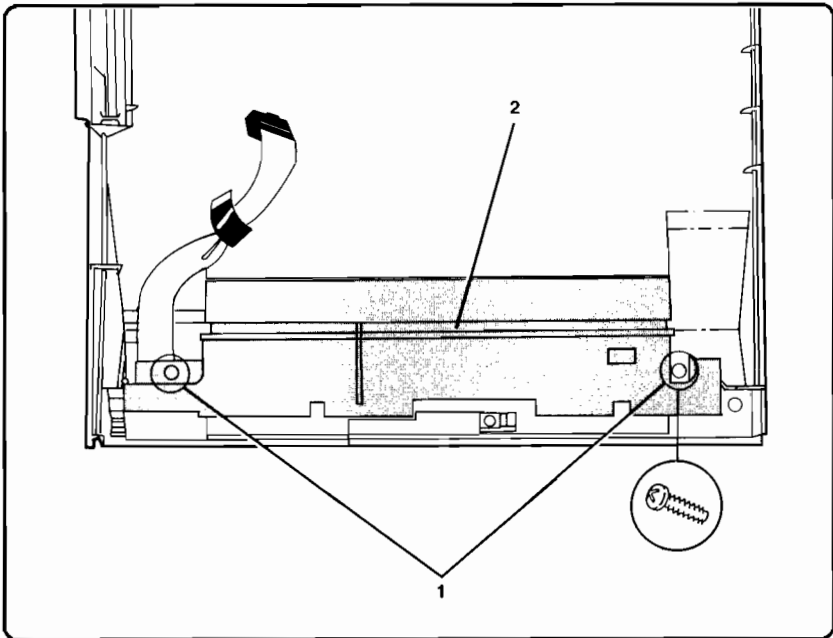

Figure 6-18. Paper Guide Removal
2. Remove the screws (2) (see Figure 6-18, callout 1) securing the Paper Guide (see callout 2) to the Top Cover and then remove the guide.
Two different types of screws are used to secure the Paper Guide in place. A threaded Phillips screw is used on one side and a self-tapping Phillips screw is used on the other side (see Figure 6-18, callout 1).
2. Remove the Paper Guide (see Figure 6-18).